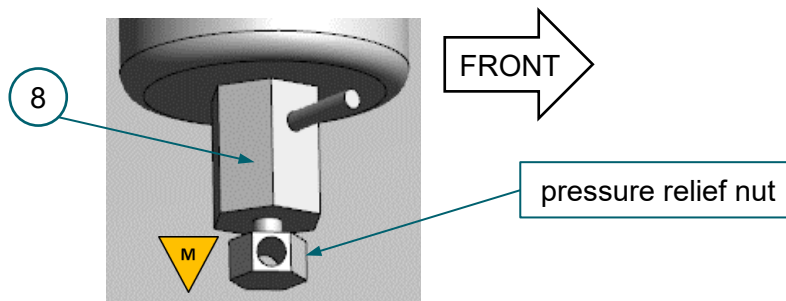

FIGURE 3–21. (8) bleed valve, pressure relief nut
28. Use a 7/16-in wrench to tighten (8) bleed valve pressure port relief nut. FIGURE 3–21